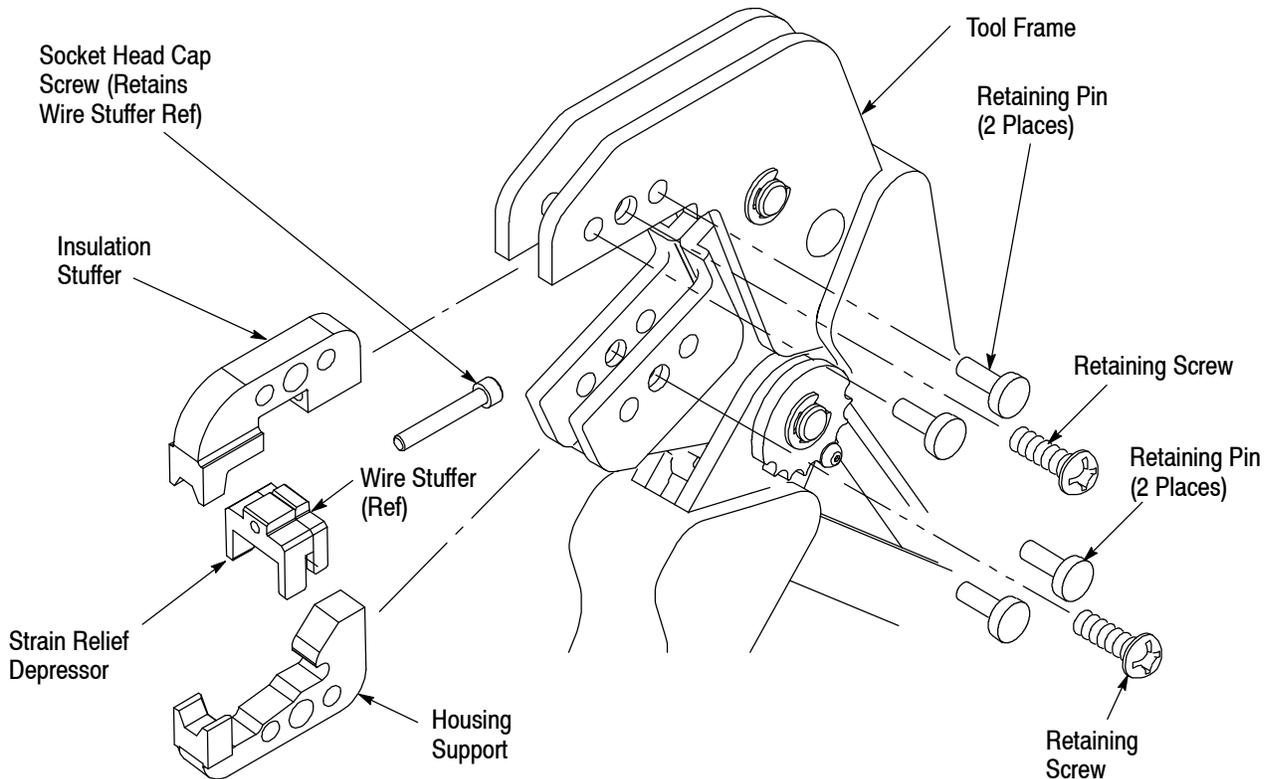

Figure 2
2. Orient the insulation stuffer as shown in Figure 2, and insert it into the stationary jaw of the tool frame. Align the holes with the associated holes in the tool frame. Insert the short retaining pins and short retaining screw into the holes in the tool frame. Tighten the screw.
3. Orient the housing support as shown in Figure 2, and insert it into the stationary jaw of the tool frame. Align the holes with the associated holes in the tool frame. Insert the short retaining pins and short retaining screw into the holes in the tool frame. Tighten the screw.
1. Install the wire stuffer onto the insulation stuffer using the 4-40 UNC x .621 in. socket head cap screw included with the die assembly. Refer to Figure 2.